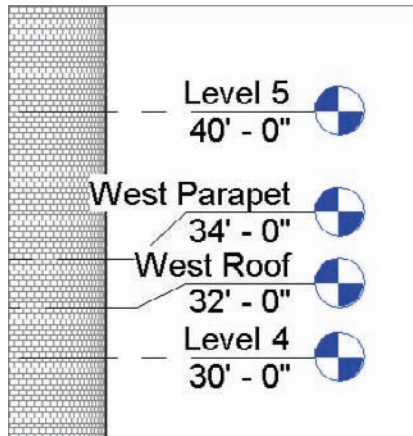

FIGURE 3.23 Adding two new levels for the west side of the building
9. Rename the 2'-0" (600mm) offset to **West Roof** (see Figure 3.23), and click Yes to rename corresponding views. You will have to add elbows to the levels to see the names and elevations.